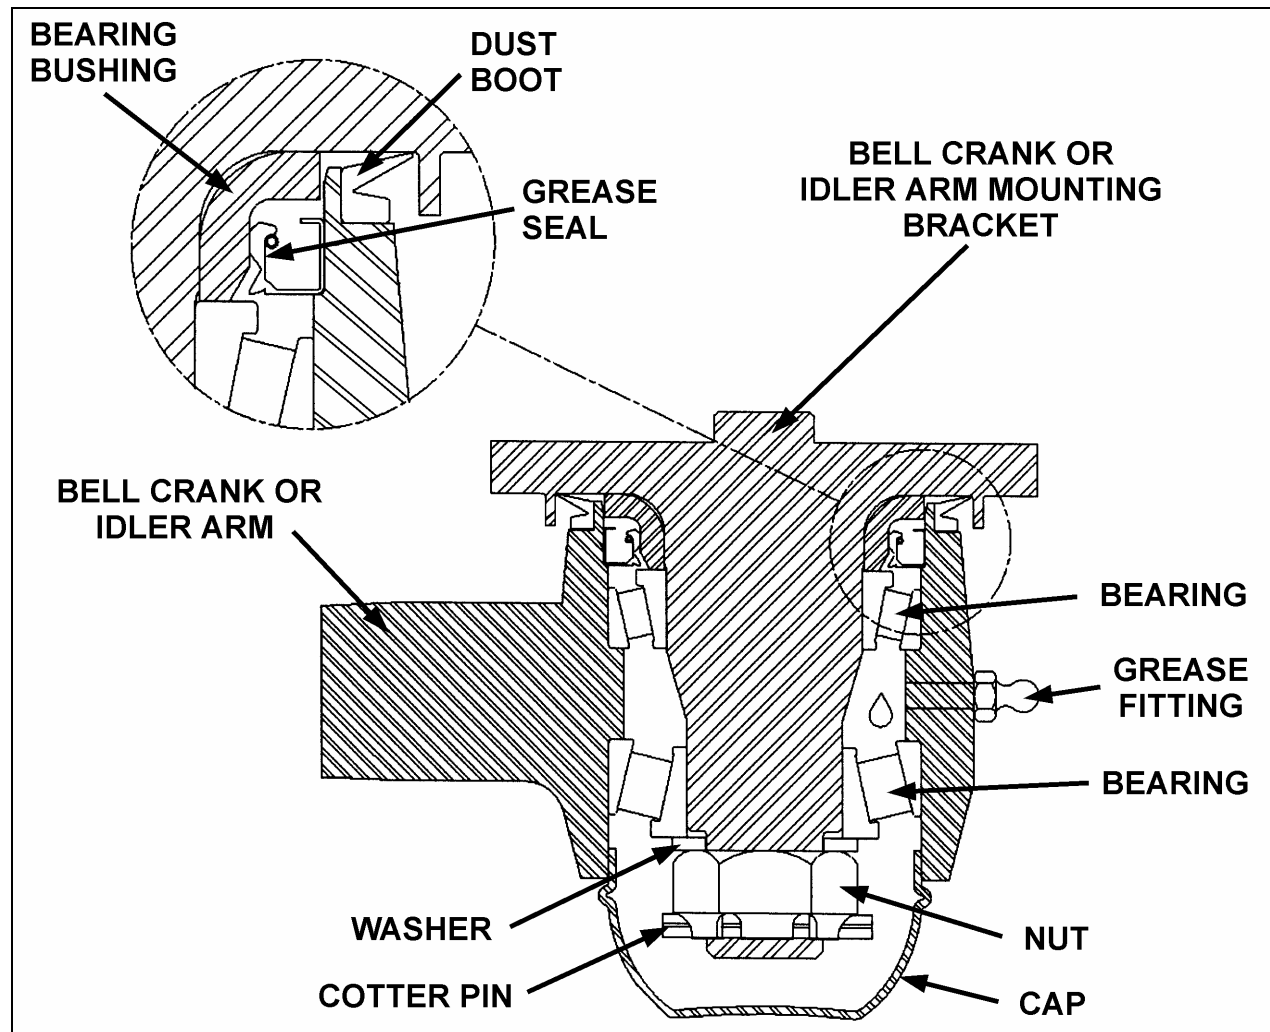

FIGURE 21: BELL CRANK AND IDLER ARM BALL JOINT
2. Remove the cap (Fig.21).
3. Remove the cotter pin, nut and tongue washer. Remove bearings, grease seal, bearing bushing and the bell crank or idler arm from its mounting bracket stud (Fig. 21).
2. Install bearing and grease seal in bell crank or idler arm eye (Fig. 21).
Install grease seal according to figure 21. Grease must be able to exit the bell crank or idler arm mechanism. For grease seal installation use tool Prévost # 110683.
3. Install bell crank or idler arm on its mounting bracket stud (Fig. 21).
Bend cotter pin around the nut (Fig. 21). Do not bend the cotter pin in the direction of the cap, because it may interfere with the cap.